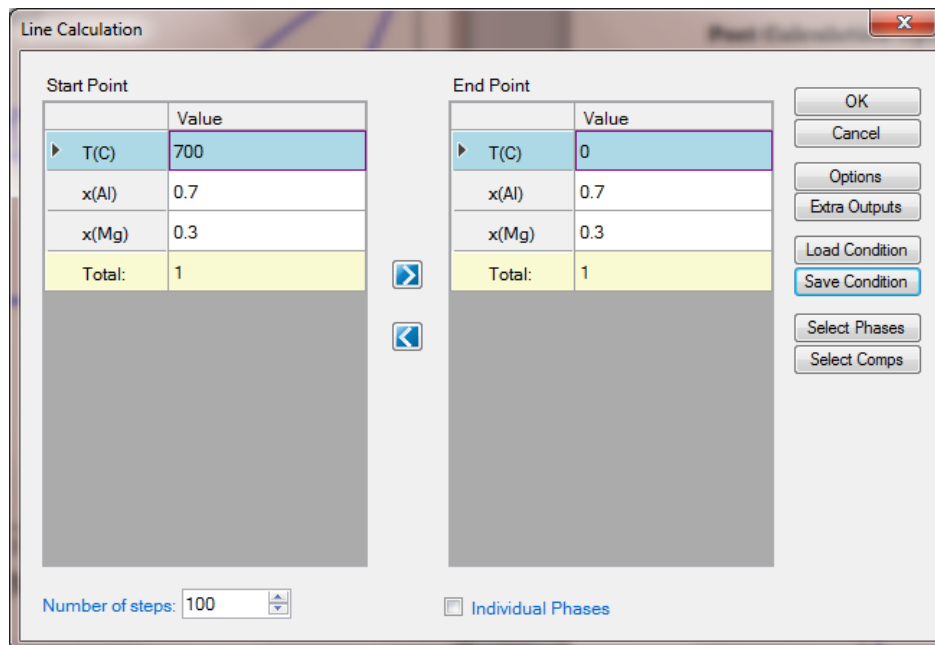

Figure 1.3.2: 1D calculation from 700°C to 0°C for alloy with 70 at% Al and 30 at% Mg
- Set Calculation Condition as shown in Figure 1.3.2;